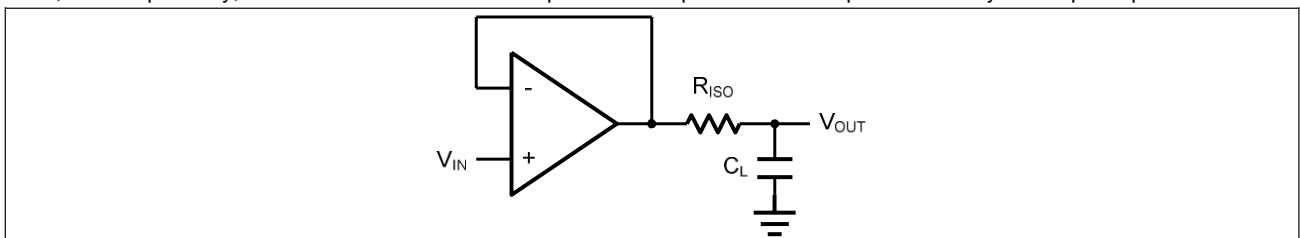
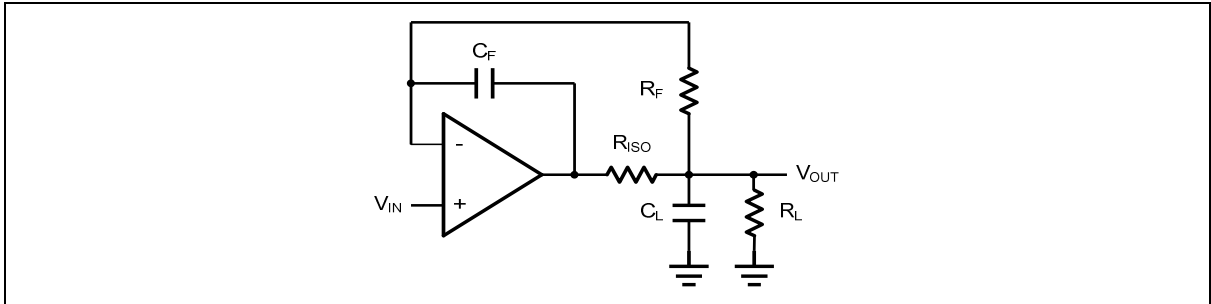

Figure 2. Indirectly Driving a Capacitive Load Using Isolation Resistor
Figure 3. Indirectly Driving a Capacitive Load with DC Accuracy
The HT855x family is optimized for bandwidth and speed, not for driving capacitive loads. Output capacitance will create a pole in the amplifier's feedback path, leading to excessive peaking and potential oscillation. If dealing with load capacitance is a requirement of the application, the two strategies to consider are (1) using a small resistor in series with the amplifier's output and the load capacitance and (2) reducing the bandwidth of the amplifier's feedback loop by increasing the overall noise gain. Figure 2. shows a unity gain follower using the series resistor strategy. The resistor isolates the output from the capacitance and, more importantly, creates a zero in the feedback path that compensates for the pole created by the output capacitance.
The circuit in Figure 3 is an improvement to the one in Figure 2. R_F provides the DC accuracy by feed-forward the V_{IN} to R_L . C_F and R_{ISO} serve to counteract the loss of phase margin by feeding the high frequency component of the output signal back to the amplifier's inverting input, thereby preserving the phase margin in the overall feedback loop. Capacitive drive can be increased by increasing the value of C_F . This in turn will slow down the pulse response.